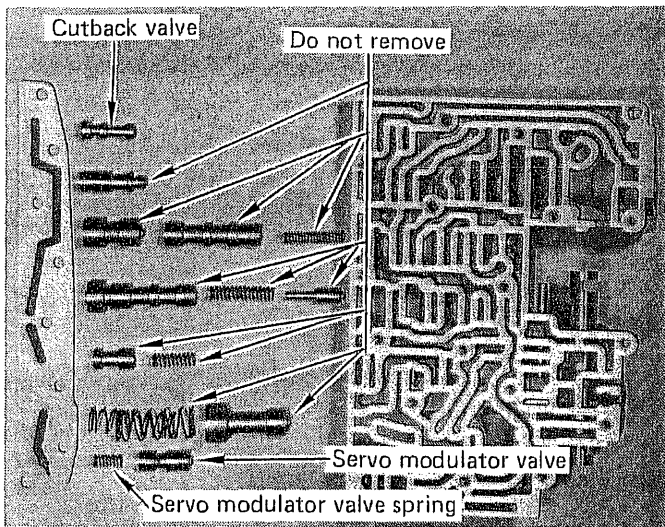

FIGURE 7
STEP 9. Turn the casting so the long end plate faces up. (See Fig. 7) This end plate holds seven sets of valves in place. Remove eight bolts holding the end plate in place. Hold the end plate in place with your thumb while removing the last bolt. Slowly lift the end plate off to expose seven sets of valve and springs. If you hold the casting with the valves facing up, they won't come out and get mixed up. Remove one at a time as follows: